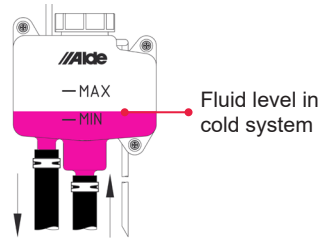

Fig. 19, Expansion Vessel
The glycol system is manually replenished in the expansion vessel. When manually filling, slowly pour the glycol mixture into the expansion vessel. The level must be approx. 1 cm above the MIN. line (Fig. 19) when the system is cold.
2. If the boiler is equipped with a vent screw on the output pipe: open the screw and leave it open until fluid comes out. Proceed to item 4.
3. If the boiler is fitted with automatic vents, venting will automatically occur. Start the boiler and let the fluid circulate in the system until it is ventilated. Top up with fluid if necessary in accordance with item 5. If this does not help, turn off the boiler and go to item 4.
5. Check fluid level in the expansion tank. Top up if the level has dropped after ventilation. The fluid level in the expansion tank must lie 1 cm above the MIN. line (Fig. 19, p. 18) when the system is cold.